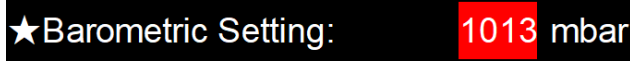

Fig. 6 Confirm setting item selection
- 3) Press ENTER to confirm the selection, and the set value will be displayed in red background and white character color, as shown in Fig. 6.